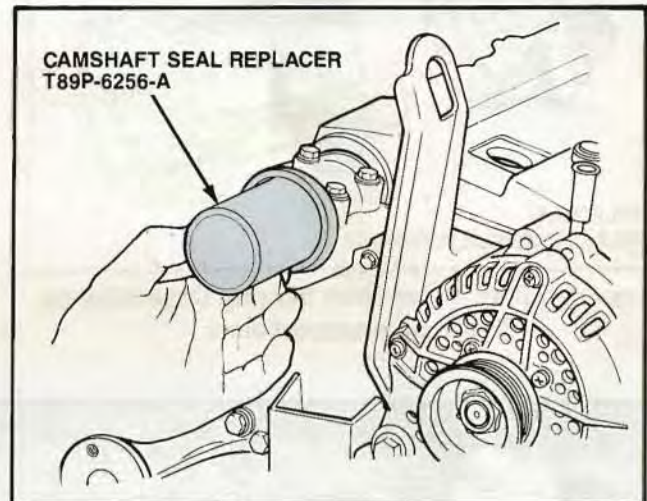

Figure 115. Camshaft Seal Expander and Camshaft Seal Replacer In Use
- Install the camshaft oil seals using the Camshaft Seal Protector and the Camshaft Seal Expander T89P-6256-B and Camshaft Seal Replacer T89P-6256-A (Fig. 115).